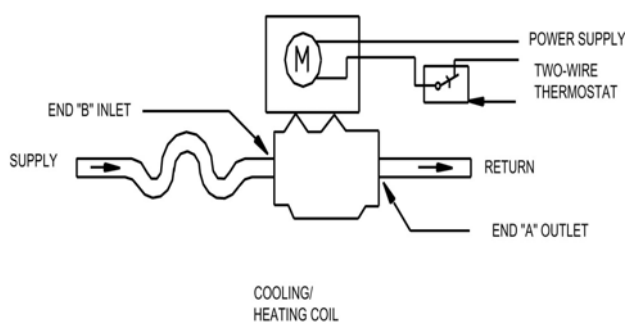

Fig. 2 Two-way valve
2. Normal-closed 2-way and diverting 3-way valves are installed as Fig. 2 and 3. For high building, pressure –reducing valve should be installed on branch pipe at ground floor.